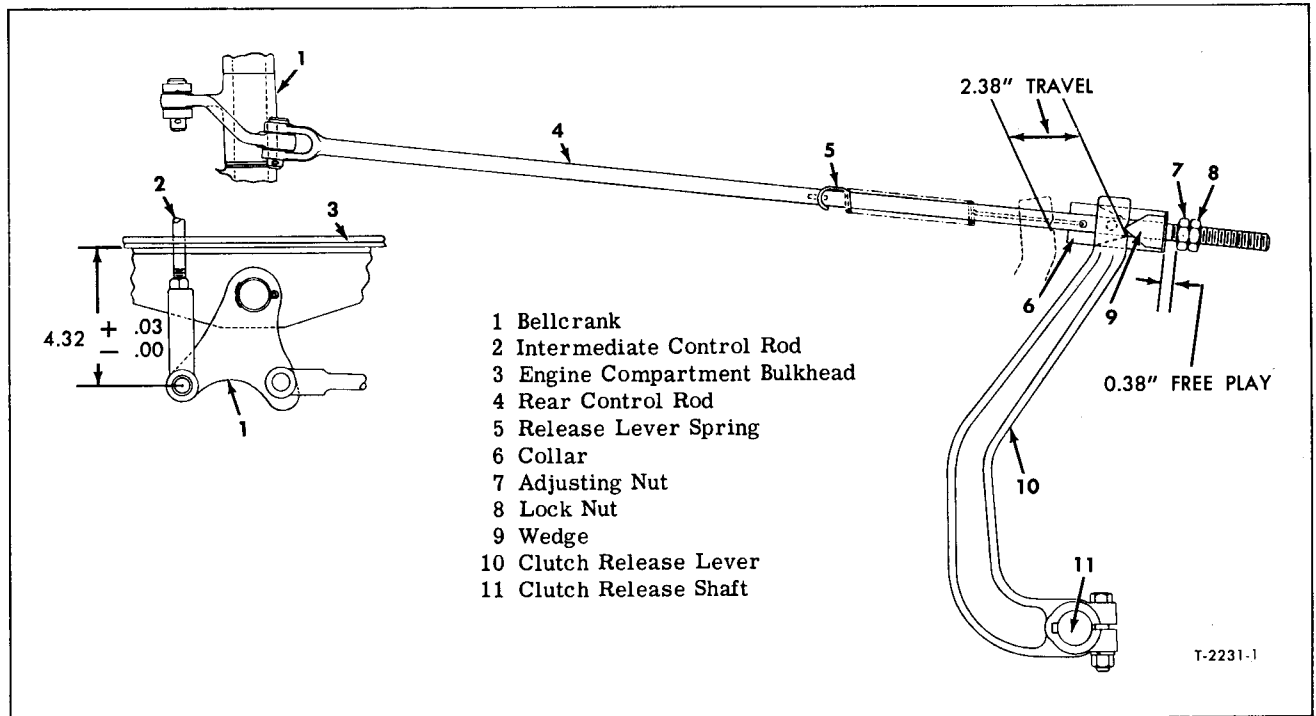

Figure 2—Clutch Control Linkage—Engine Bulkhead To Transmission
Key numbers in text refer to figure 2.
For proper leverage and satisfactory clutch linkage operation, the distance from center of clevis pin in bellcrank (1) to rear face of engine compartment bulkhead (3) is 4.32 inches as shown in figure 2.
1. With clutch pedal up and front end adjusted, measure distance from center of clevis pin in bellcrank (1) to bulkhead (3).
2. If necessary, loosen lock nut on intermediate control rod (2), remove clevis pin, and adjust yoke to provide the 4.32 inch dimension required.